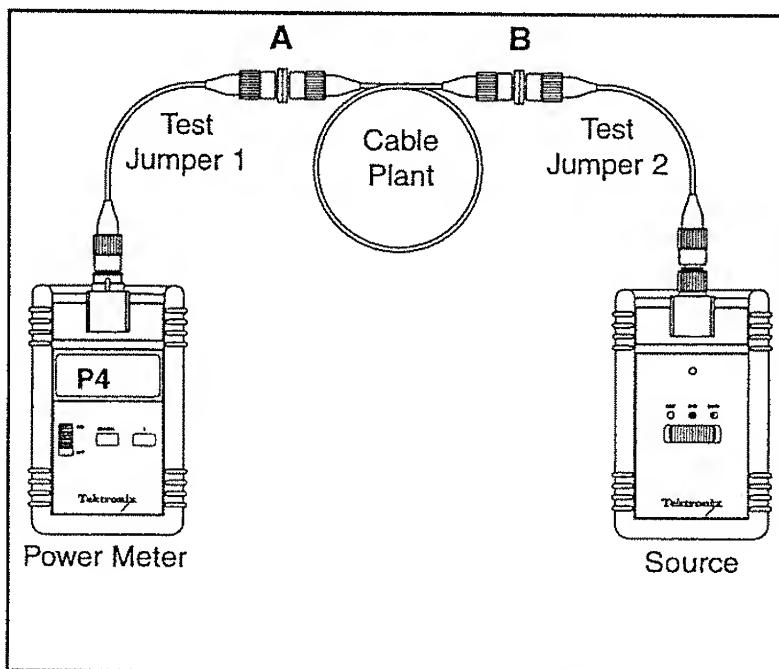

Fig 4.6 Reverse Link Connection
D) It is advisable to measure losses in both directions. Reverse the source and power meter connections (see Figure 4.6). Calculate the reverse loss using the formula below: